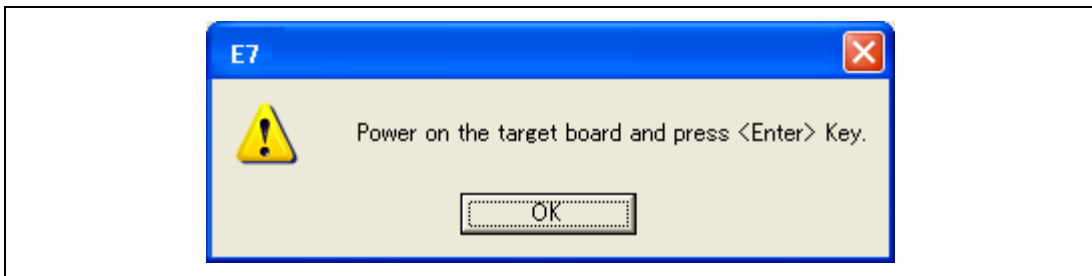

Figure 3.24 Dialog Box of the Power-on Request Message
8. The dialog box is displayed as shown in figure 3.24.